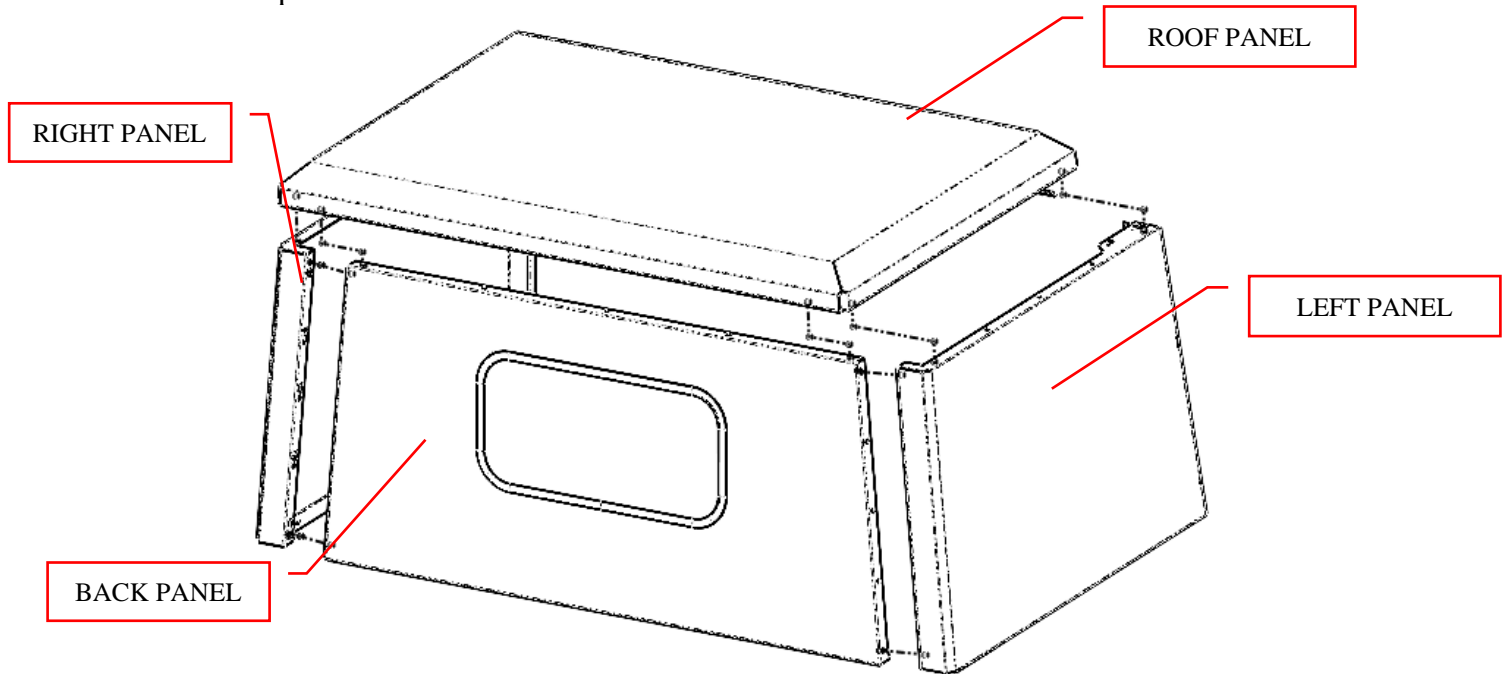
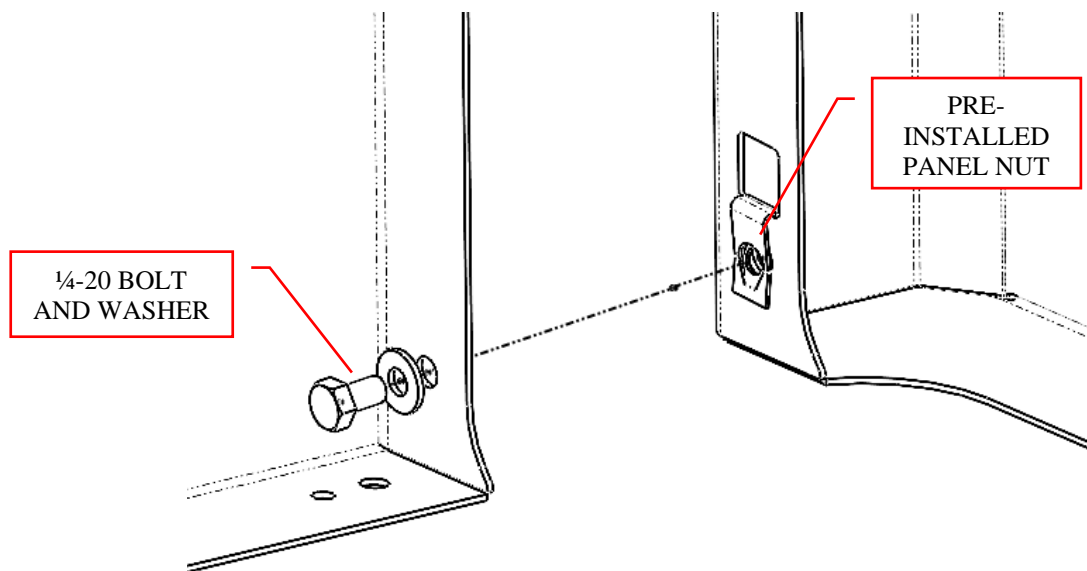

Figure 2: Exploded view of side, back, and roof panels.
Figure 3: Detail of fastener assembly.
1. Fasten the back panel, left panel, right panel, and roof panel together according to the exploded view. Be sure to put a 1/4-20 bolt with washer in each of the pre-installed panel nuts. There is a total of 27 bolts to install, so a small cordless impact or screw gun is recommended. Make sure the seams and corners are flush before tightening the bolts. Torque each bolt to approximately 8 ft*lbs. See Figure 2 and Figure 3.